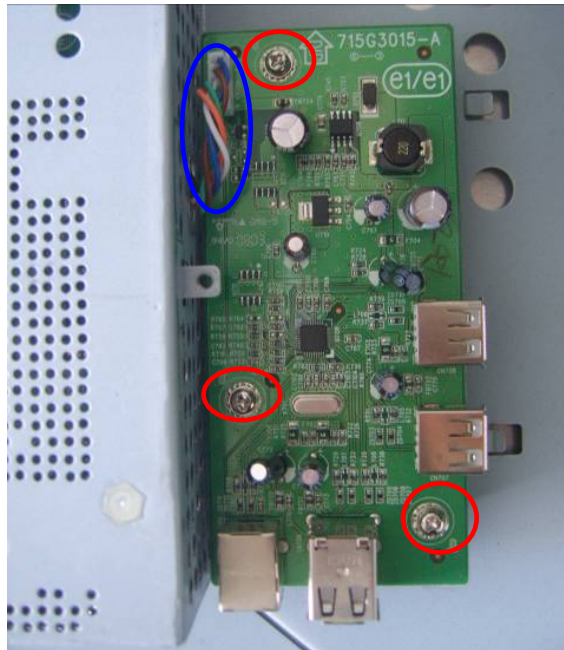

Fig 8
- Remove the screws remarked in red and release the connector remarked in blue to remove the USB board.(Fig 8)